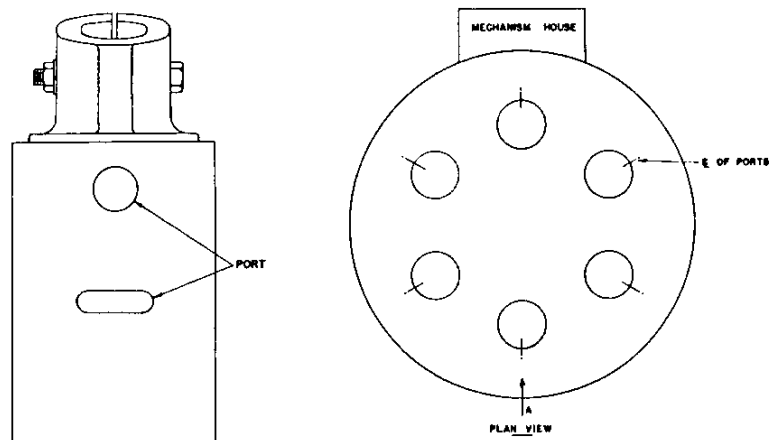
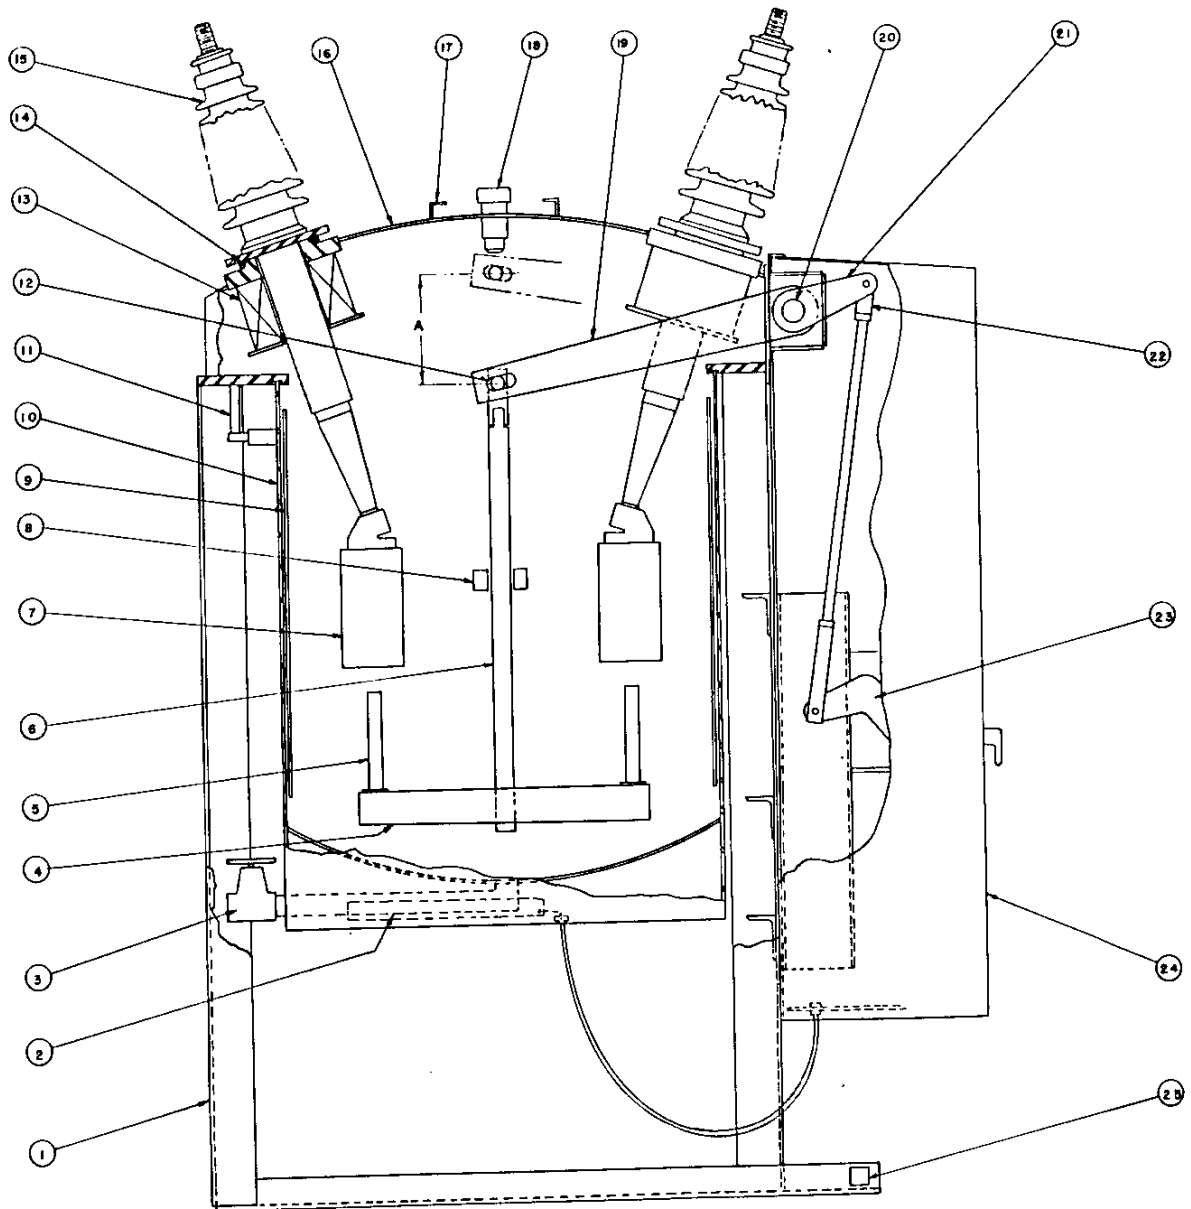

Fig. 2
Fig. 4
- (a) Interrupter port alignment—Figure 2.
Figure 4 shows the linkage involved in transmitting the vertical travel of the solenoid to the breaker lift rod (Fig. 4-6). On a closing operation the coupling 22 is pulled down, rotates the bellcrank and gives vertical motion to the link assembly 21. This in turn rotates the crank lever giving upward motion to the lift rods.
The moving contacts consist of blades clamped to the lower end of the wooden operating rods and holding, by means of slotted supports, the adjustable contact rods, Figure 4 (5). These contacts may be screwed in or out to obtain correct contact compression on all stationary contacts and to ensure that each phase is making and breaking at approximately the same time.
The complete explosion chamber, Fig. 4 (7) is removed by unclamping from the bottom of the bushing. It is important that the explosion chambers be set up so the parts are exhausting radially as shown in Fig. 2. To inspect the fixed contacts the entire baffle assembly may be taken apart by removing the dowel screws. The explosion chamber contacts, spring loaded, are assembled on the adapter and are renewable.